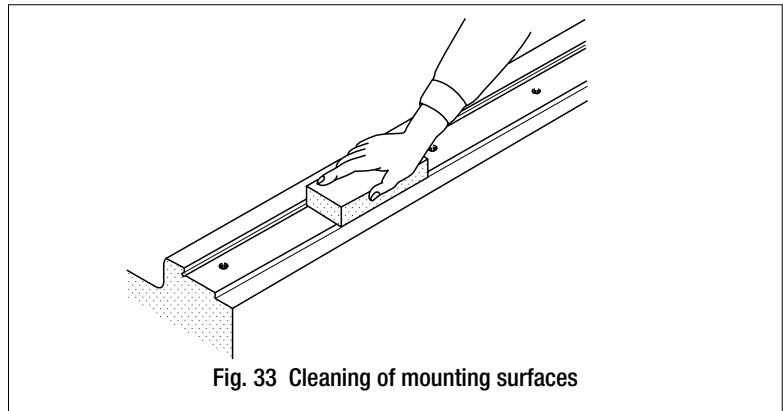

Fig. 33 Cleaning of mounting surfaces
① Cleaning of mounting surfaces
- Remove burrs and blemishes from reference mounting surfaces and mounting surfaces of the machine using an oil-stone, etc., and then wipe the surfaces with clean cloth. (See Fig. 33.)